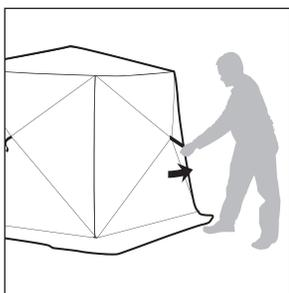

FIGURE 4
5. Proceed by walking around entire shelter and pulling on each wall webbing loop to pop out each wall until all sides are popped out. **SEE FIGURE 4.**